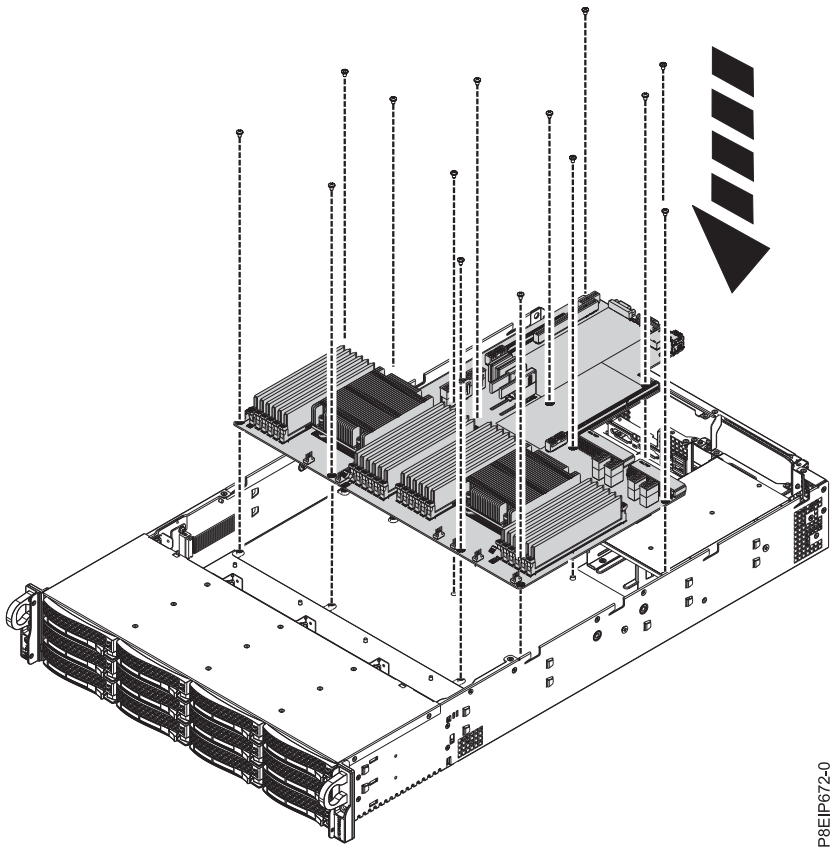

Figure 70. Replacing the system backplane
12. Moving the front cables out of the way, and carefully holding the processor heat sink, lower the system backplane into the chassis, then slide it slightly back. See Figure 70 on page 57.